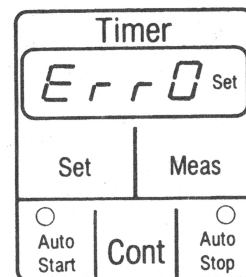

Figure 16. Timer Display/*Err 0*.
Ovens are equipped with a self-protect (SP) feature. They will not operate when set-times of 60 minutes or more are entered in minute column. *Err 0* is shown in timer display (Figure 16) when this occurs. To re-start, set time with less than 60 minutes in minute column (3.7.1).